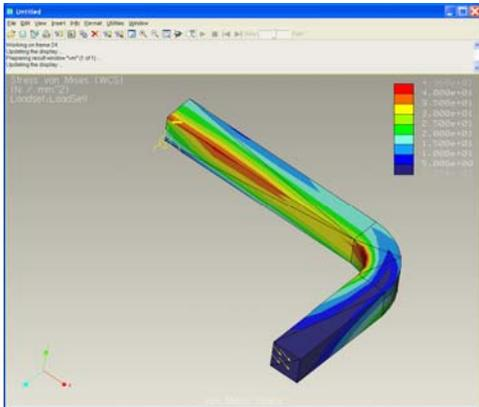
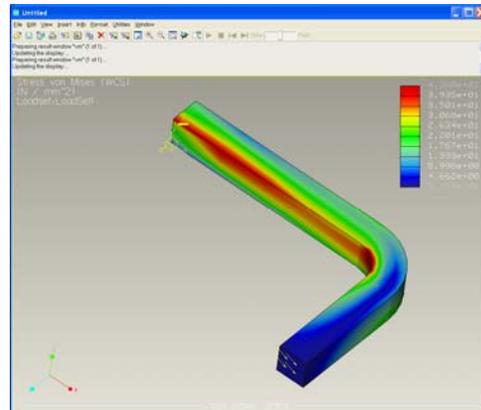

Figure 30
Figure 31
- Show the Von Mises Stress finger plots in Figure 30 and Figure 31. Figure 30 plots with contour level 8 and element edges. Figure 31 plots with contour level 9, continuous tone and no edges).